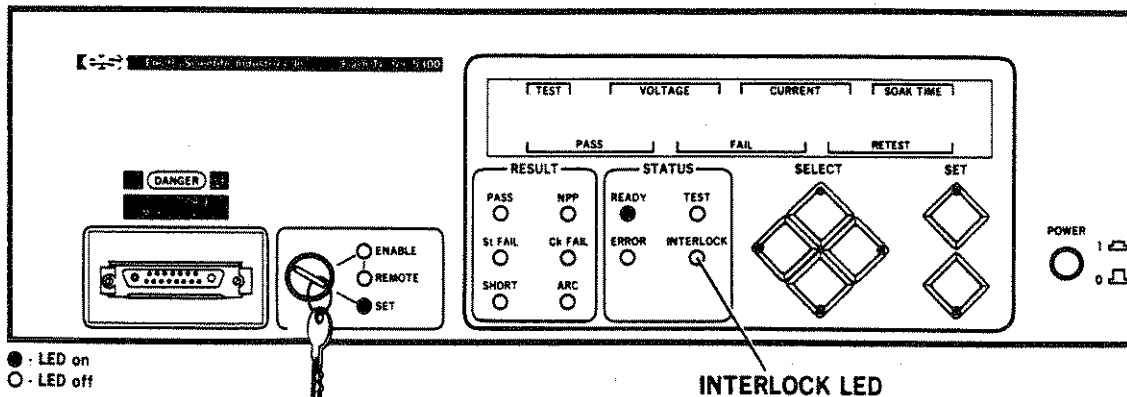

Figure 5-5. INTERLOCK LED Location
STEP 5. Place the capacitor in the test fixture and close the test fixture or test head cover. The INTERLOCK LED on the 5300 should turn off. Refer to Figure 5-5 for the location of this LED.